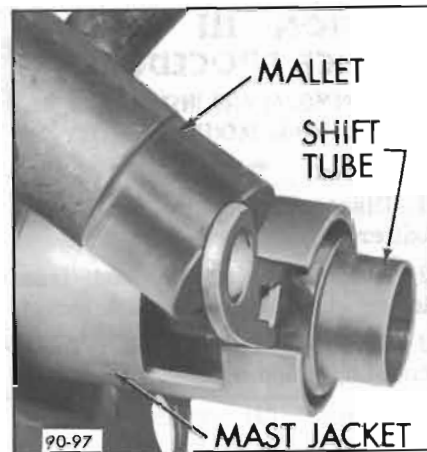

Figure 90-97—Removing Shift Tube 43-44000 Series
5. On 43-44000 series remove the shift tube and felt seal downward through column by tapping lightly with a mallet on shift lever. See Figure 90-97.